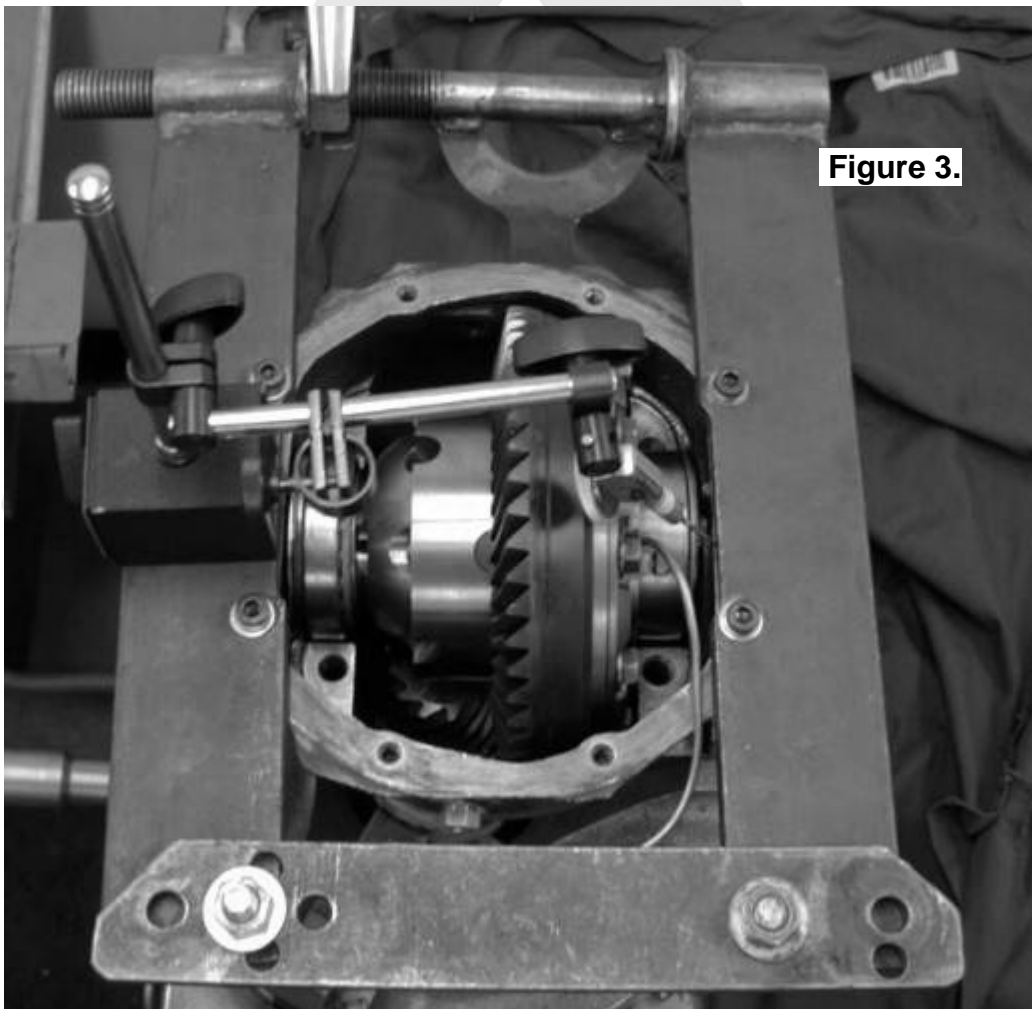

Figure 3.
- Setup the differential spreader and a dial indicator and carefully spread the differential housing (Fig.3.) just enough to remove the differential carrier (Refer to your vehicle's service manual).